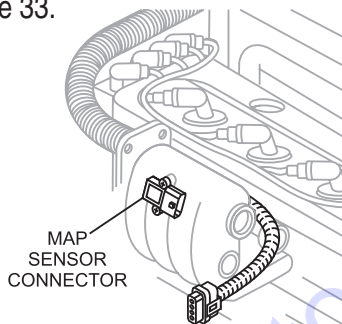

Figure 33. MAP Sensor Connector
1. Open hood and disconnect MAP sensor connector. See Figure 33.
10. To correct MAP sensor error, remove jumper wire, reconnect MAP sensor connector (See Figure 33) and restart engine. It may be necessary to restart and stop the engine five times in order to clear the error from the check engine warning lamp. Allow engine to run 3 to 5 minutes.